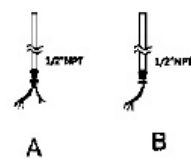

Figure 8
1. Unscrew the nuts on 1/2" NPT. (figure 8)